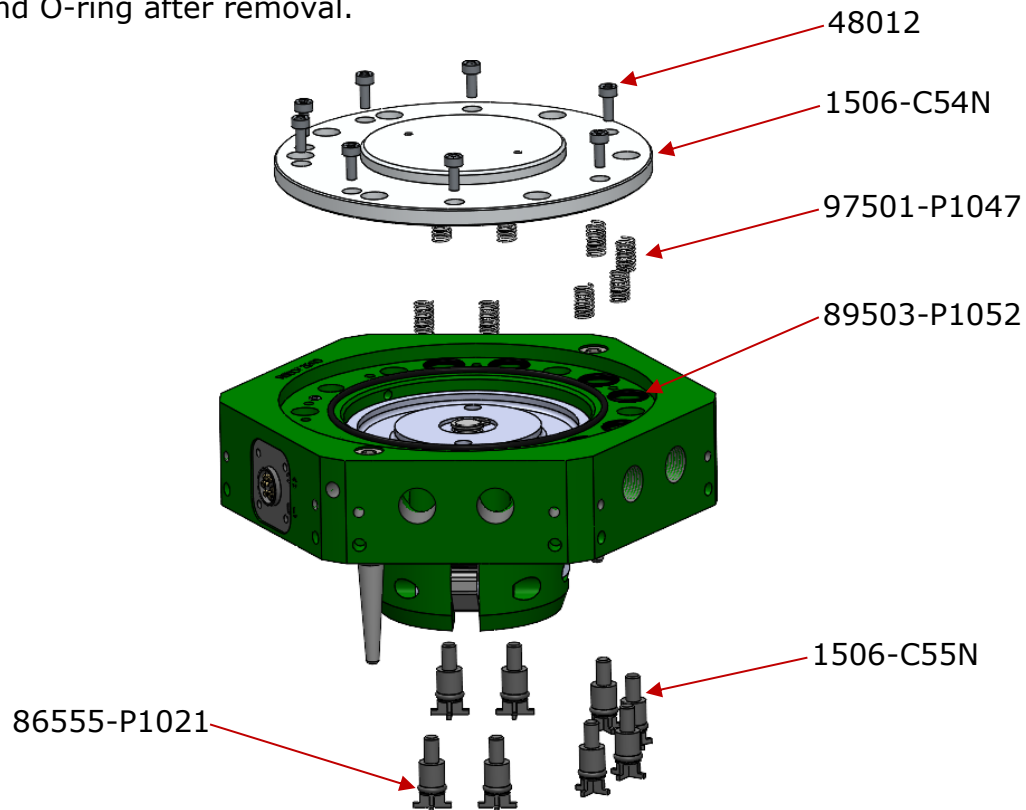

Figure 10.1.3-1. Poppet Valve Removal
4. Using a punch, drive the Poppet Valve(s) (1506-C55N) through the front face of the Robot Side (Figure 10.1.3-1). Note that this step will likely destroy the Poppet Valve and O-ring (86555-P1021). Discard the valve and O-ring after removal.